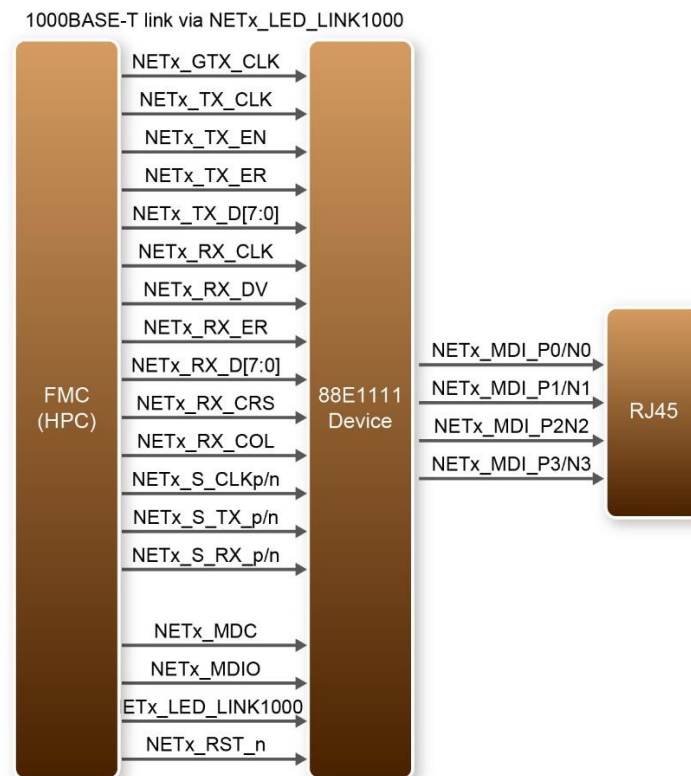

Figure 3-1 System Overview with 88E1111 device
**Figure 3-1** shows the connections between the FMC (HPC), the 88E1111 Ethernet PHY, and RJ-45 connector. Ethernet PHY 88E1111 function are controlled by the management interface via NETx\_MDC and NETx\_MDIO. There is a LED used to indicate the status of 1000BASE-T link via NETx\_LED\_LINK1000.